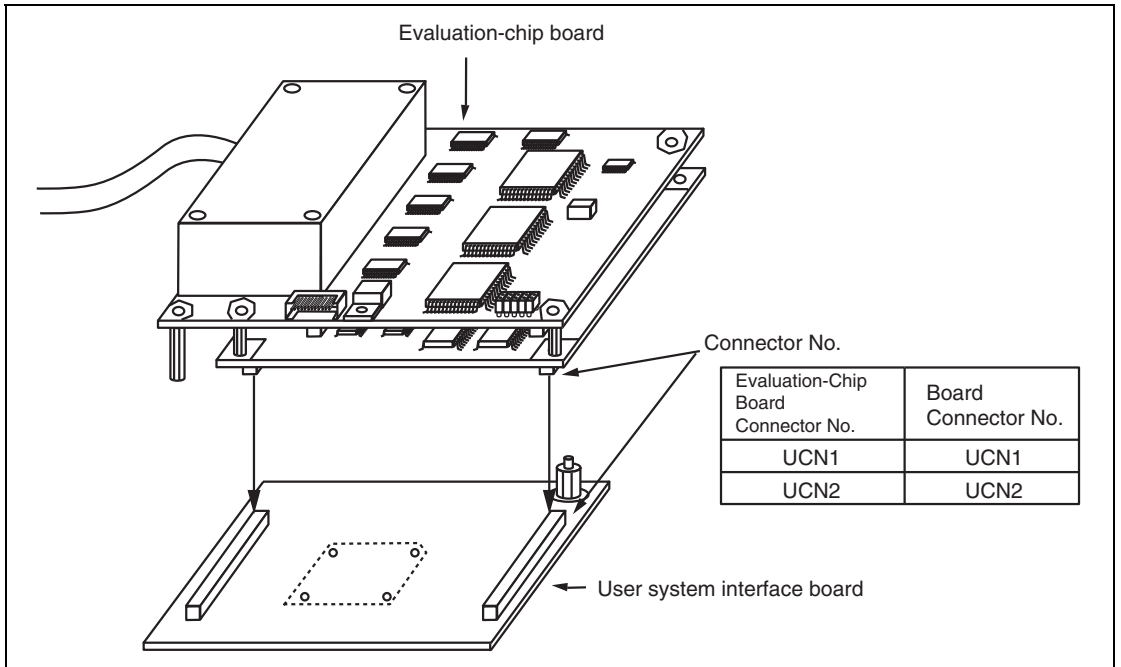

Figure 5 Connecting the User System Interface Board to the Evaluation-Chip Board
2. Align the connectors on the user system interface board with those on the evaluation-chip board by matching the numbers on the connectors (figure 5).